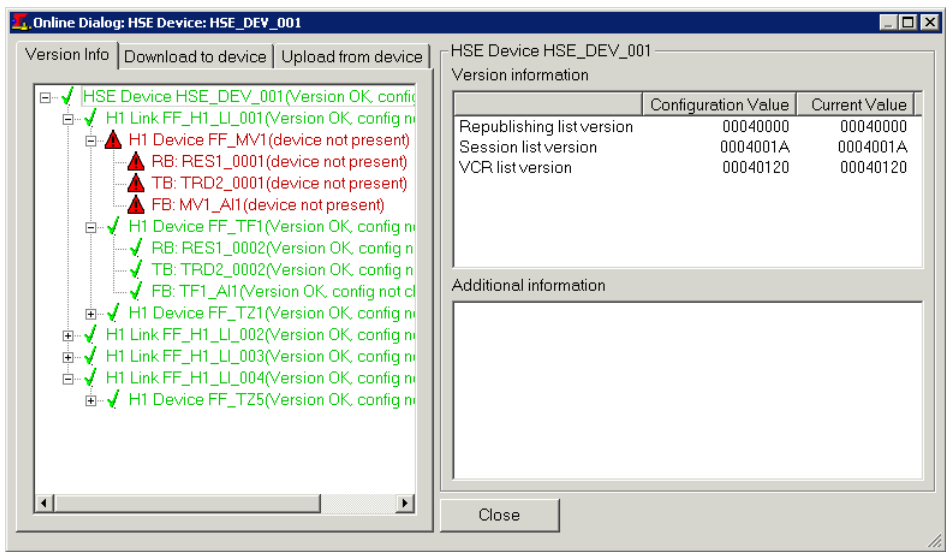

Figure 179. Online Dialog
- 15. Open the Online dialog with **Object > Online Dialog...** (refer to Figure 179).